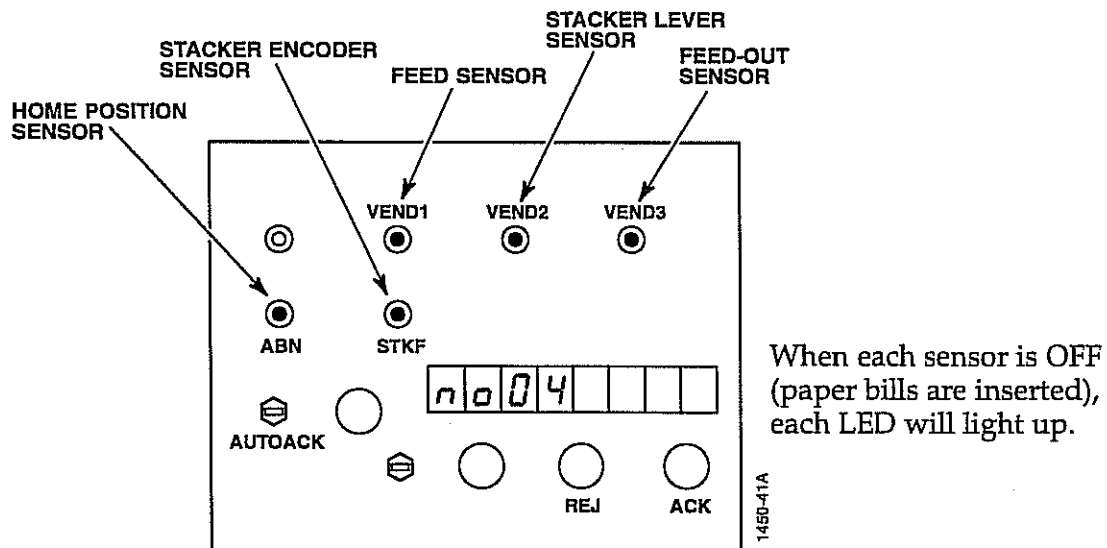

Figure 3-32. Test No. 04 Displays.
2. Make sure that **no. 04** is displayed on the LED display (see Figure 3-32).